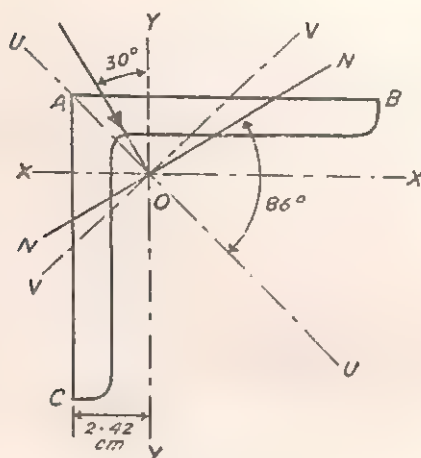

Fig. 66
12) A cantilever consists of an 80 mm  $\times$  80 mm  $\times$  12 mm angle with the top face  $AB$  horizontal as shown in Fig. 66. It carries a load of 200 kg at 1 m from the fixed end, the line of action of the load passing through the centroid of the section and inclined at  $30^\circ$  to the vertical. Determine the stresses at the corners  $A$ ,  $B$  and  $C$  at the fixed end and also the position of the neutral axis.